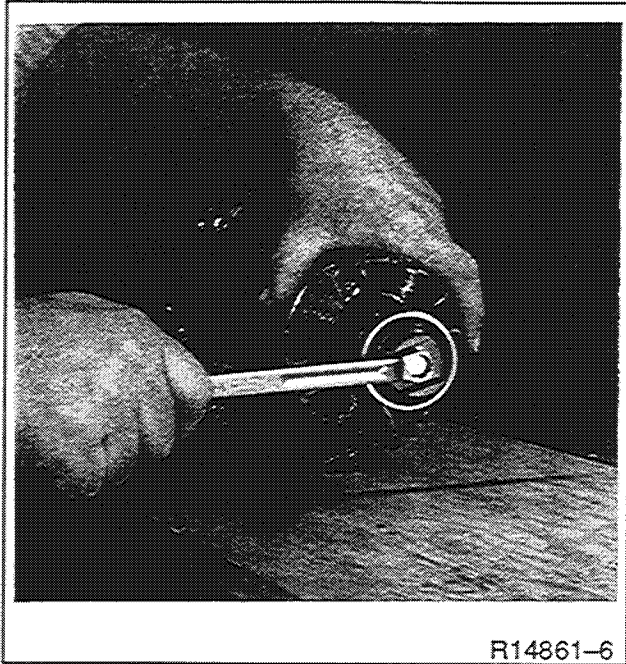

Figure 9–19. Removing Magnetic Pickup Actuator
20. Remove magnetic pickup actuator by removing one screw and flat washer, see Figure 9–19.
Using a hard rubber or dead blow hammer alternately strike end bracket using medium force blows. Use the rotating sequence shown in Figure 9–20 to install end bracket.